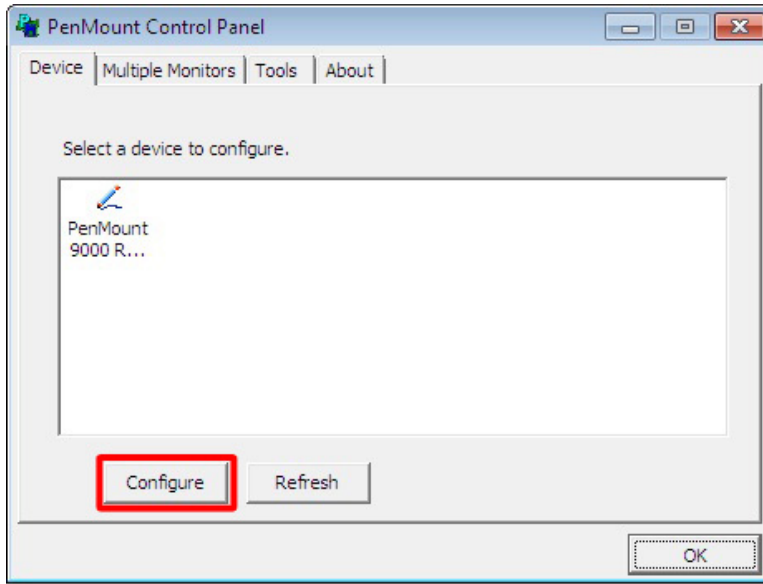

Figure 3-30: Touchscreen Control Panel
Step 3: The touchscreen control panel appears (Figure 3-30). Click **Configure**.